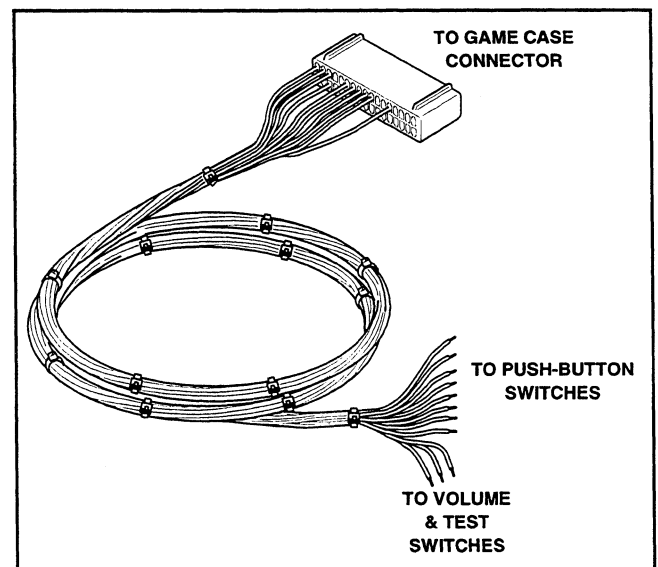

FIGURE 6
20. Connect the Player 1 and Player 2 Kick buttons to the auxiliary cable harness connectors shown in Figure 6. Make the connections according to the chart of Figure 7.